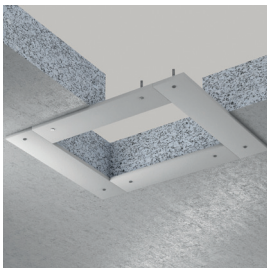

Fig. 1:
- / If the thickness of the rigid wall or rigid floor in the area of the through penetration firestop system is less than the required minimum seal thickness, then all around the opening, either an enclosing lining (see Fig. 3) or a board frame (see Fig. 1 & 2) of non-flammable drywall or silicate or calcium silicate boards (class A2-s1, d0 or A1 in accordance with EN 13501-1) must be provided, so that the ZZ-Foam blocks 200 NE rest on the lining or the board frame and the wall/floor over the entire thickness of the through penetration firestop system.
- / If the thickness of the flexible wall in the area of the through penetration firestop system is less than the required minimum seal thickness, then all around the opening, either an enclosing lining (see Fig. 3) or a board frame (see Fig. 1 & 2) of non-flammable drywall or silicate or calcium silicate boards (class A2-s1, d0 or A1 in accordance with EN 13501-1) must be provided, so that the ZZ-Foam blocks 200 NE rest on the lining or the board frame and the wall over the entire thickness of the through penetration firestop system